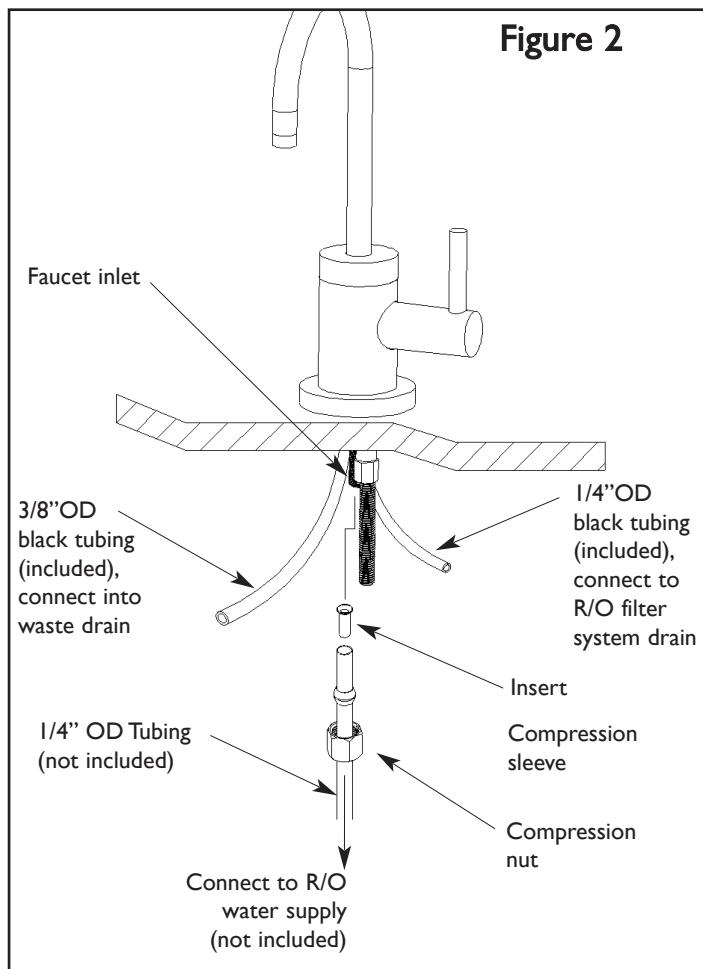

Figure 2
2. ATTACHING WATER SUPPLY CONNECTION (See Fig 2)